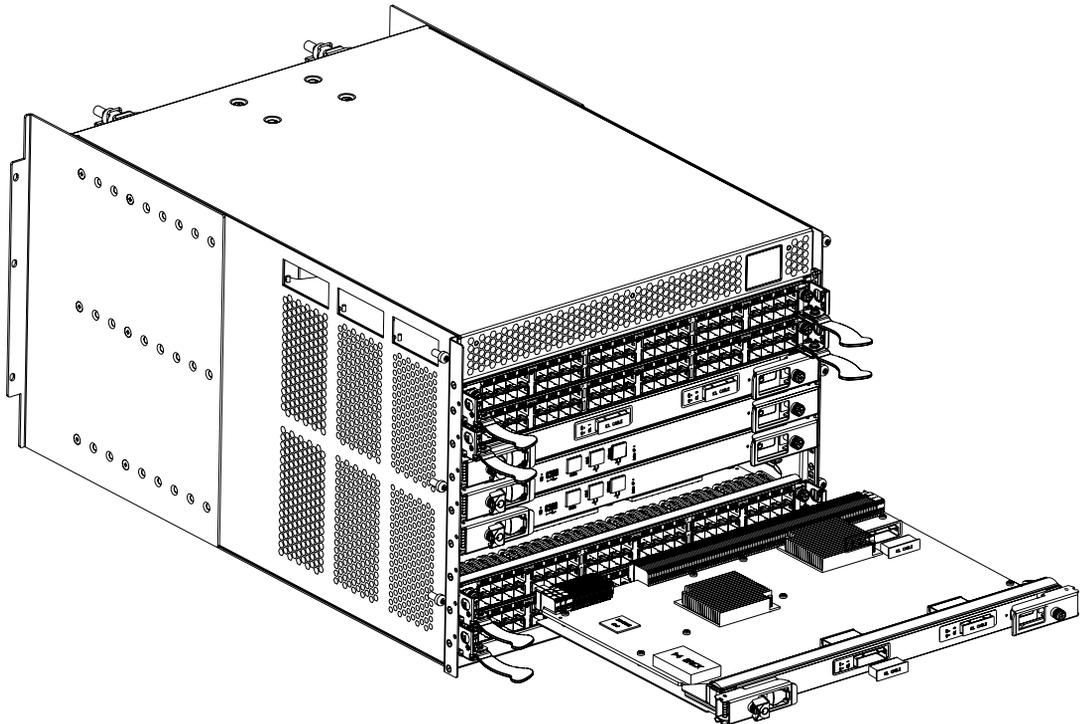

Figure 22 RRP: Core switch blade (CR4S-8)
This section describes how to remove and replace a core switch blade. The ED-DCX-4S-B has two core switch blades: one in slot 3 and one in slot 6. Note that the blade shown in the removal illustration (Figure 22 on page 108) is shown with EMI plugs installed.
2. Power off the blade by sliding the slider switch in the left ejector to the right to the off position (Figure 22 on page 108).
5. Lever open both ejector handles simultaneously to approximately 45 degrees and pull the core switch blade out of the chassis (Figure 22 on page 108).